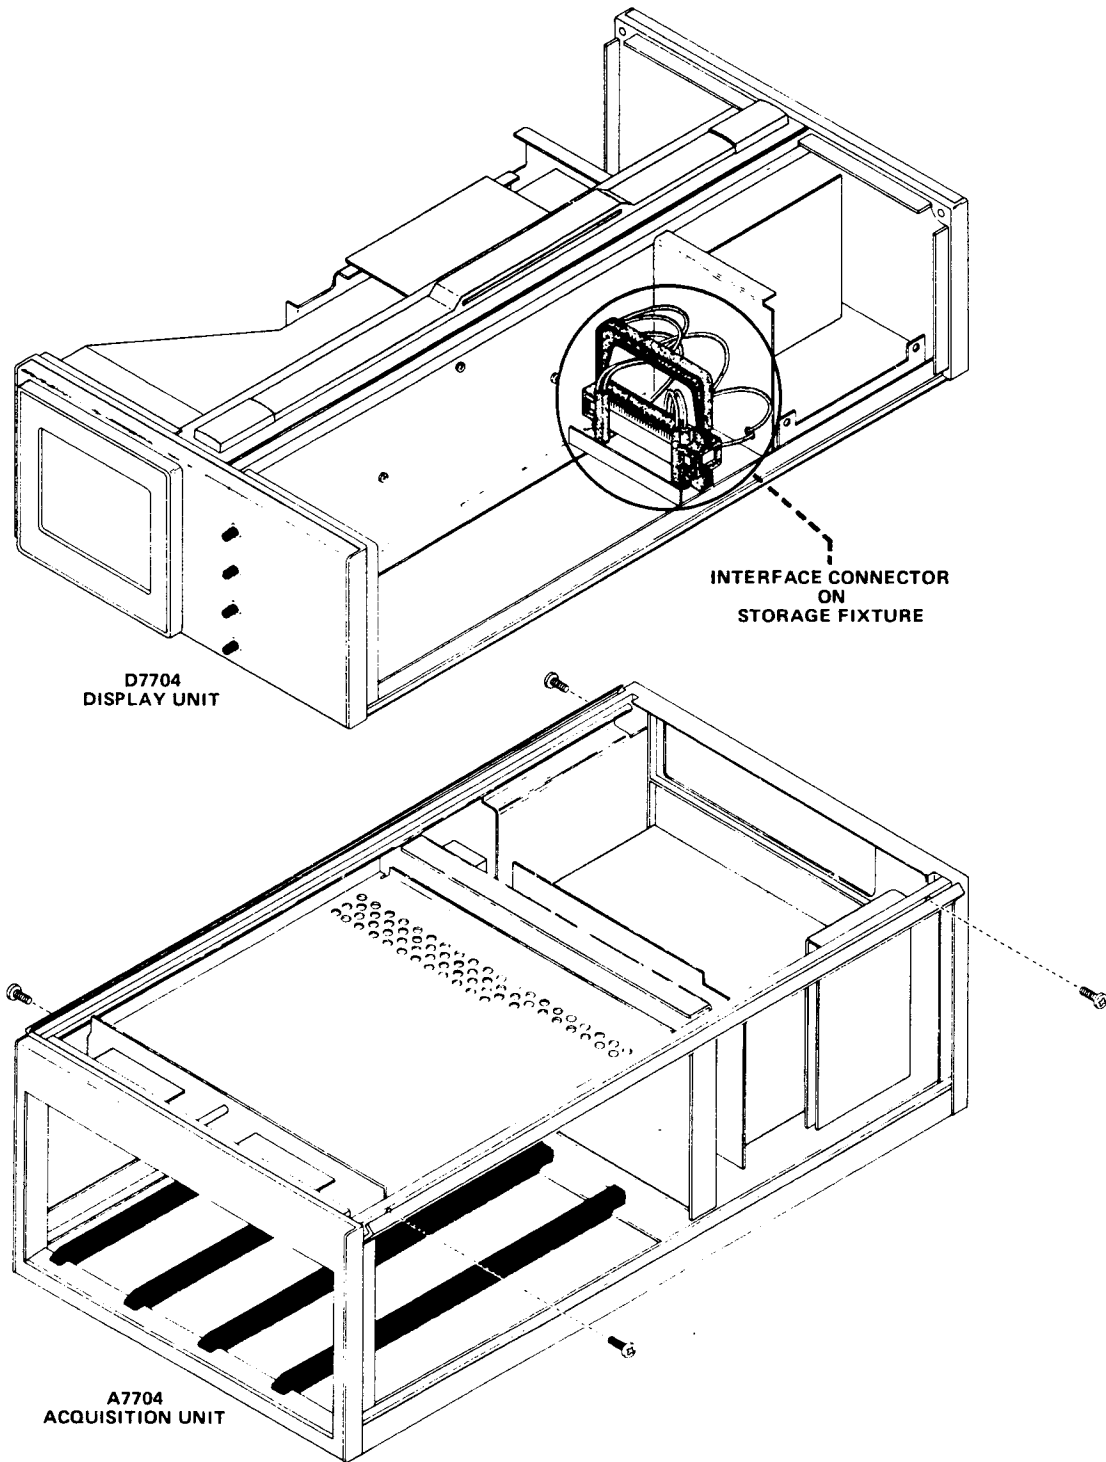

Figure 1. Disassembly of Display and Acquisition Units.
- ( ) 10. To gain access to the screw securing the lower front post spacer for the High Voltage circuit board (A42), the Display Unit must be separated from the Acquisition Unit as follows (refer to Figure 1):